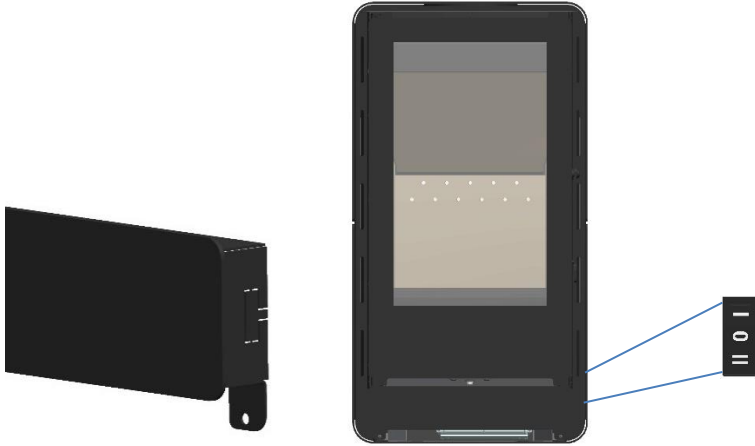

Figure 51 - Attaching the switch to the front cover
* Before attaching the front cover, you must fit the switch button into the side slot (Figure 51).